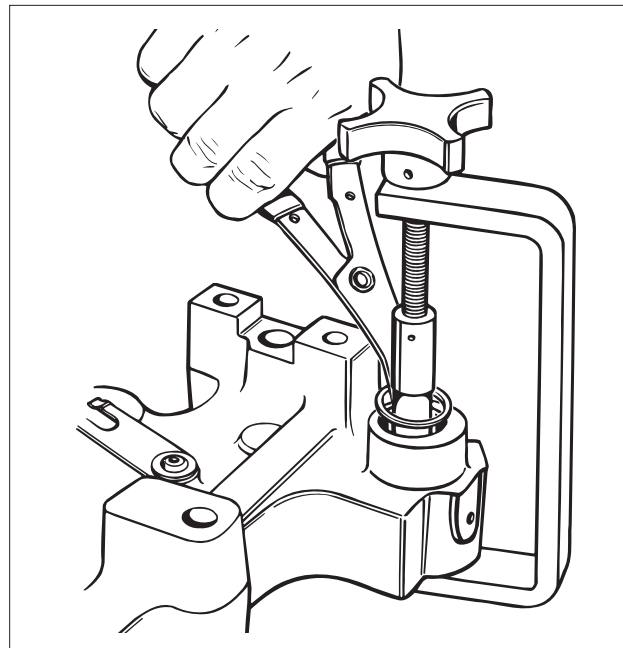

FIG. 25
4. Remove the retaining ring using retaining ring pliers. Back out the holder until the springs are loose. Remove the tool. (see Fig. 25)
8. Use the removal tool to compress the slave piston and springs down until the retainer is about $1/32"$ (1 mm) below the retaining ring groove (see Fig. 25).